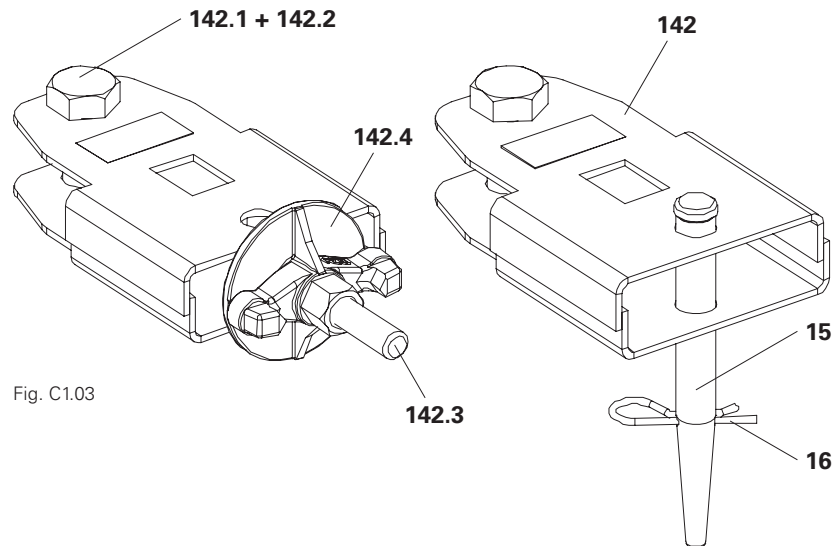

Fig. C1.03
If the Wingnut Counterplate DW 15 (142.4) collides with the strongback, the Clamp Adapter MX/TR – SRU (142) can be fitted using filler pins Ø 21 x 120 (15) and cotter pins 4/1 (16). (Fig. C1.03)